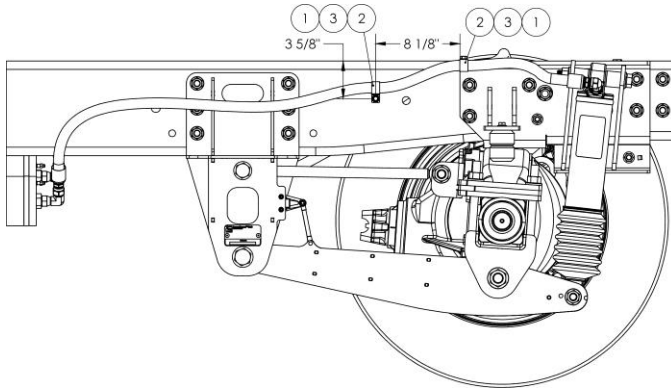

Figure 19: Driver Side Hose Routing
12. Secure hose with clamps as shown below in Figure 19.